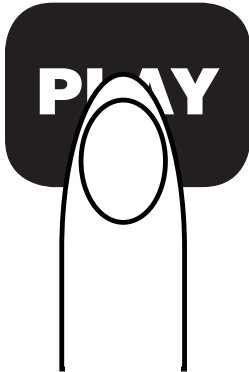

Fig. 10
- The point at which playback starts is automatically stored in the memory as the cue point. The pickup then returns to the cue point (the point at which playback started) when the **CUE** button is pressed (Figure 10).
- 1) Press the **PLAY** button during playback to pause at that point. (figure 10)